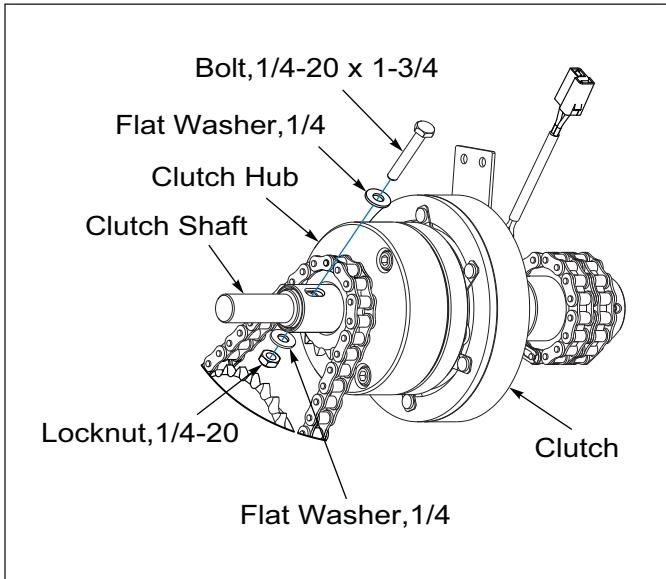

Figure 3-13: Clutch Lock Bolt
2. The Seeder has provisions to mechanically lock the Clutch to drive the Seed Metering System, by aligning the hole in the Clutch Shaft with the slot in the Clutch Hub and securing with a 1/4 x 1-3/4 Bolt, Flat Washers and Locknut. **See Figure 3-13.**